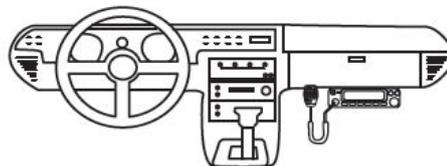

Fig. 3
2. Fix the transceiver, and then insert and tighten the supplied hexagonal screws (4X) as shown in Fig. 3.